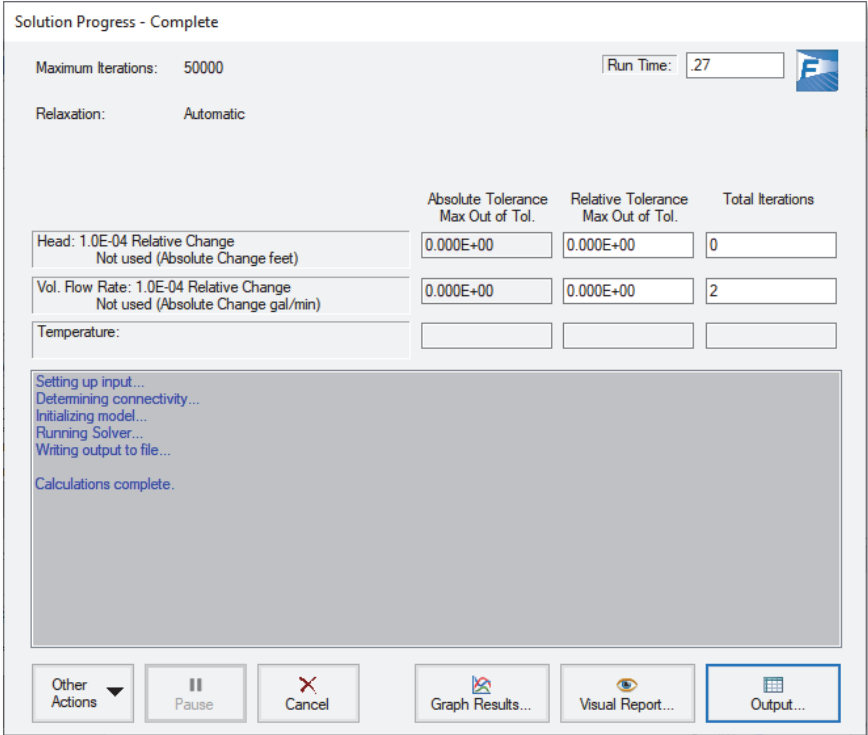
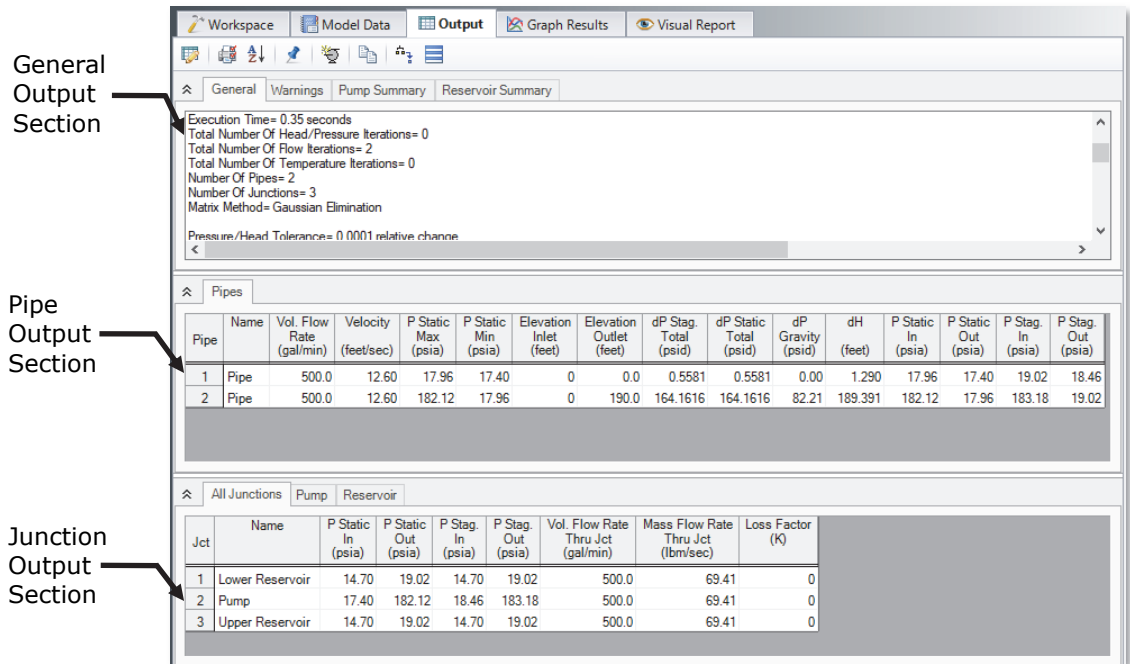

Figure 2.15 The Solution Progress window displays the convergence progress
Figure 2.17 The Output window displays output in text form
- **Choose “Run Model” from the Analysis menu** or click the arrow icon on the Main Toolbar. During execution, the Solution Progress window displays (see Figure 2.15). You can use this window to pause or cancel the Solver's activity. When the solution is complete, click the Output button and the text-based Output window will appear (see Figure 2.17). The information in the Output window can be reviewed visually, saved to file, exported to Excel or a spreadsheet-ready format, copied to the clipboard, printed to an Adobe PDF file, or printed out on the printer.
The Output window (Figure 2.17) is similar in structure to the Model Data window. Three areas are shown, and you can expand or collapse each area by dragging the boundary between the areas up or down or by clicking the arrow beside the area label. The items displayed in the tables are those items you chose in the Output Control window.